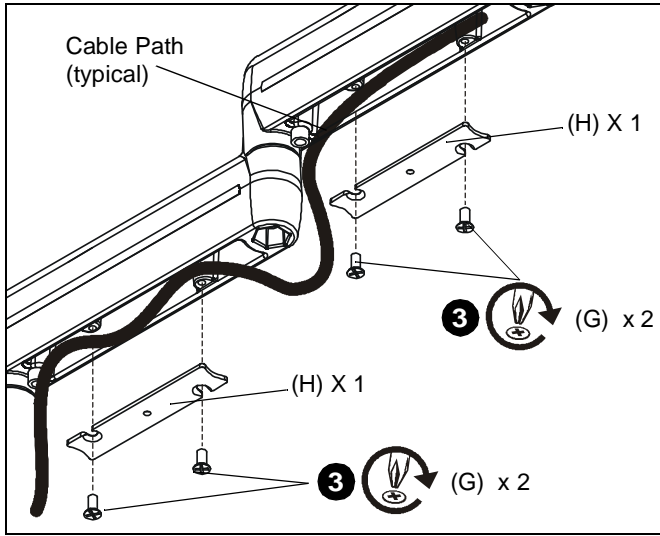

Figure 5
- Carefully insert cables in cavity located in upper portion of mount arm. (See Figure 5)
- Using Phillips screwdriver, install cover (H) with two screws (G). (See Figure 5)